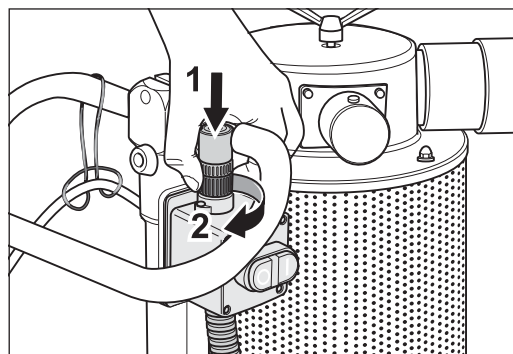

Fig. 16 Make sure that the cable plug of the sensor is inserted into the ON/OFF switch!
**Before switching on the machine make sure that the cable plug of the sensor is inserted into the ON/OFF switch (fig. 16 and → Section 6.2, Reassembly after transportation)! The machine will not start as long as this plug is disconnected!**